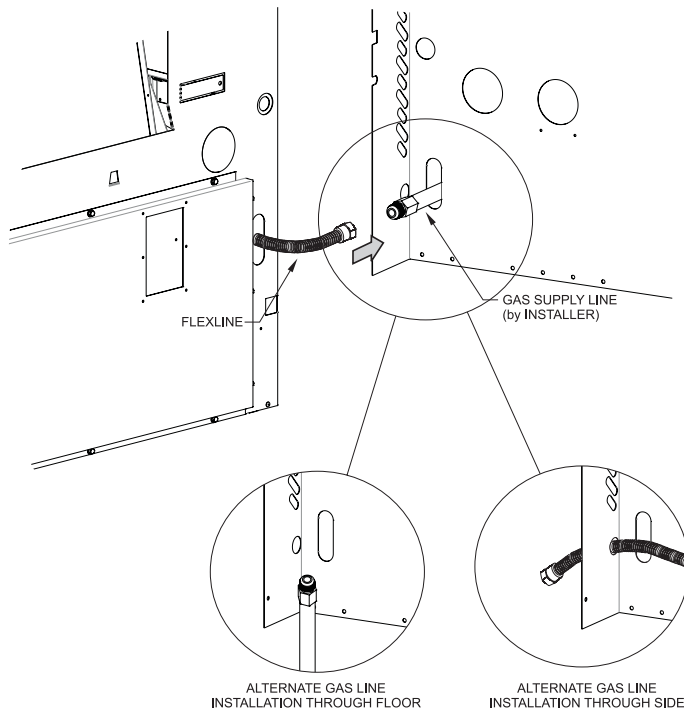

Figure 36
1. Pull the factory installed flexible gas line through the hole in the back panel. See Figure 36.
2. Connect the gas supply line to flexible gas hose. Ensure that flexible gas hose is not kinked after fitting gas supply line. Any excess flexible line can be pushed back into the wall furnace. See Figure 36.